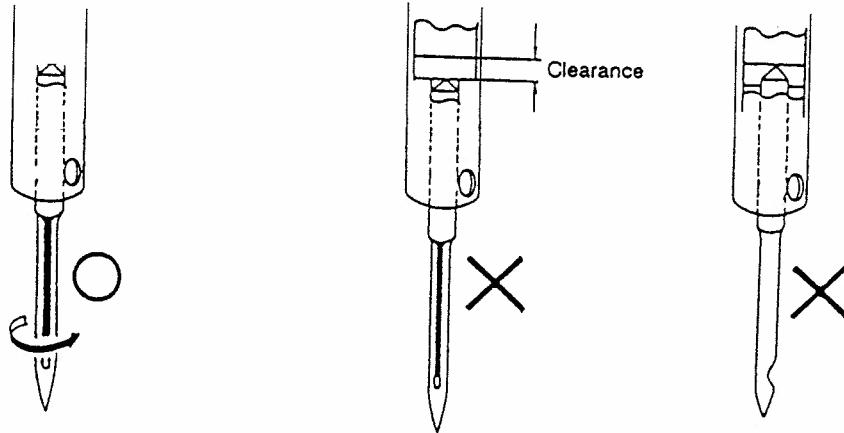

Fig. 8.5
- (1) Before installing or removing the needle, turn off the power so that the sewing machine will not be started up in error.
- (2) Insert the needle into the needle socket as far as it will go.
- (3) With the needle prime groove turned to the front, tighten up the needle set screw to secure the needle.
- (4) For more satisfactory stitching results, it is recommended that the needle be installed and turned by about 10° in the direction of the arrow in Fig. 8.5.